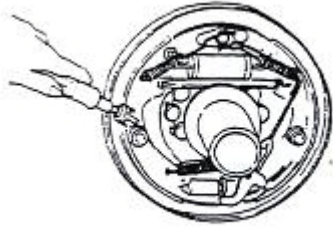

Figure 1
(1) Remove the support pin, adjustment lever, adjustment device and spring on the auxiliary brake shoe. As figure 1